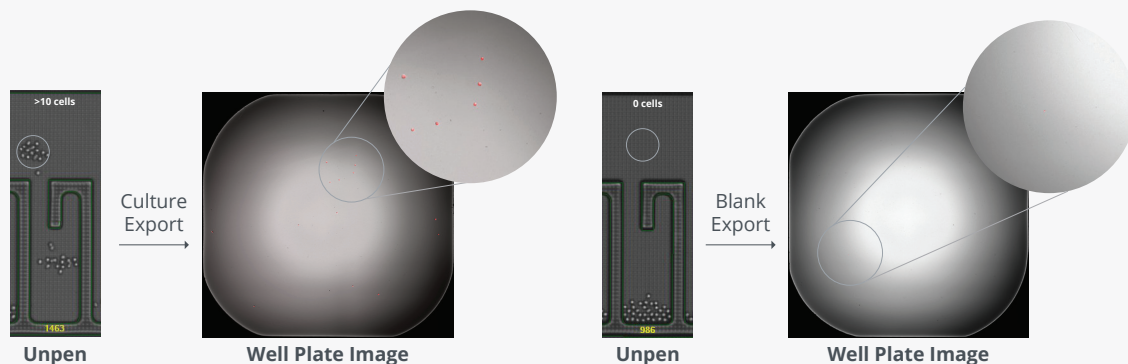

Figure 7 | Verifying clonality during clone recovery with alternating blank wells.
- The blank wells can be stained and imaged by microscopy to confirm that no contaminating cells were present in the channel before or after exporting of a clone (Figure 7).